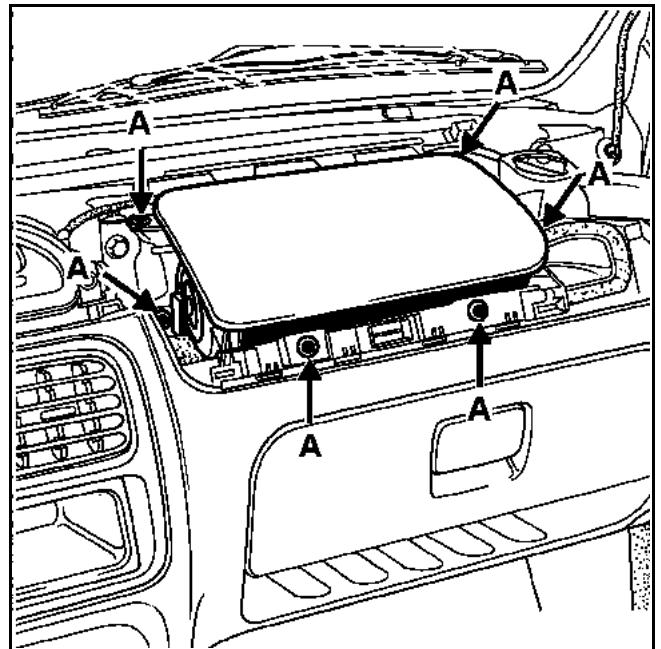

Fig. 1
- Check the passenger air bag module mounting: The mounting must be held by 6 bolts (A) (**Fig. 1**) (tightening torque **0.6 daNm**).